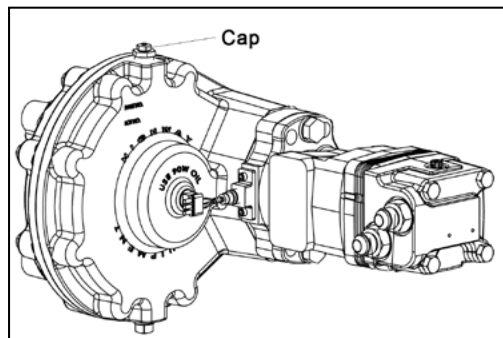

Figure 25 - Gear Case
1. Remove cap from gear case as shown in Figure 25.
The four sensors are installed and set at the factory (Figure 25). Resetting will be required if parts are replaced or issues occur. To adjust, follow the instructions detailed in figures 26-29 below: